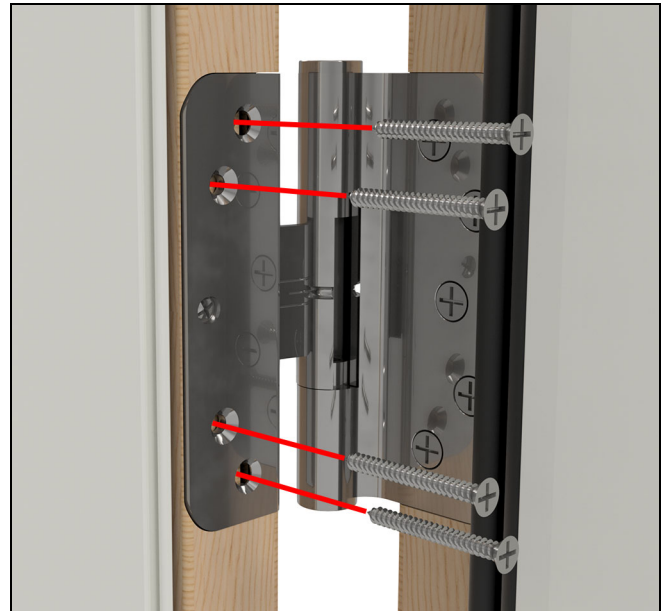

Figure 33
4. Fasten the hinge to the operating panel using #8 X 1" screws. See Figure 33. Repeat for all hinges.